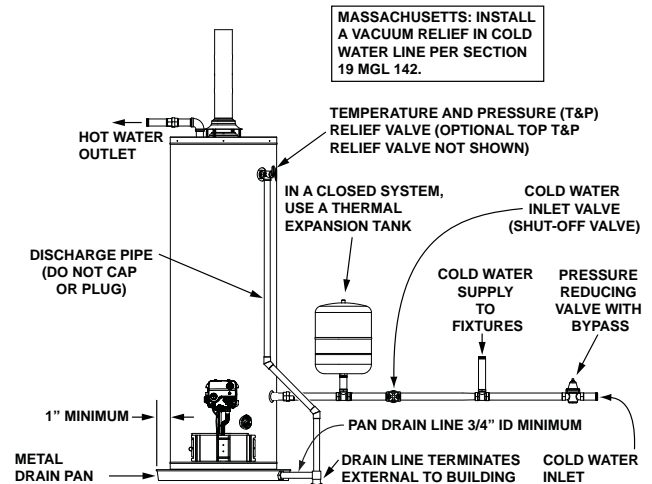

FIGURE 11.
Piping, fittings, and valves should be installed according to the installation drawing (Figure 11). If the indoor installation area is subject to freezing temperatures, the water piping must be protected by insulation.
1. Install the water piping and fittings as shown in Figure 11. Connect the cold water supply (3/4" NPT) to the cold water inlet fitting. Connect the hot water supply (3/4" NPT) to the hot water outlet fitting.